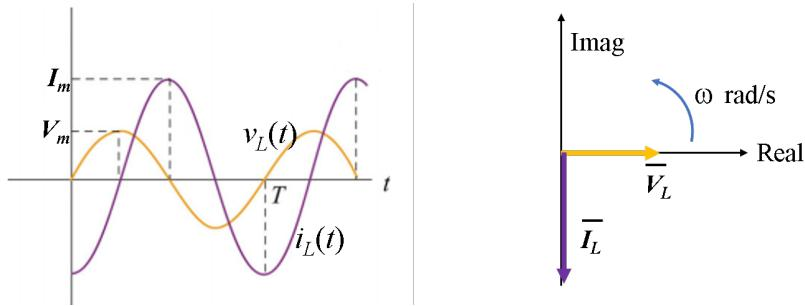

Figure 20: Voltage waveform and current waveform of an inductor (left) and the phasor diagram (right)
**It is a positive imaginary number with magnitude equal to  $\omega L$ , the reactance of the inductor.** The voltage phasor and the current phasor of an inductor are shown in the phasor diagram in Figure 20 (right).